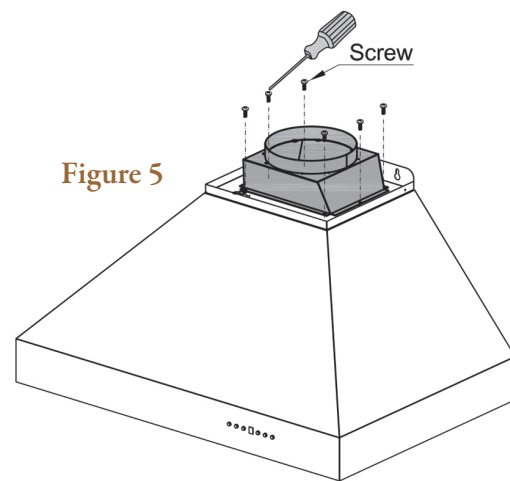

Figure 5
Install the transition piece securing it with screws provided. (Figure 5)
- 6 Make your electrical and ducting connections. Try and minimize the use of elbows. More elbows and longer runs create higher static pressure. The hood comes with a grounded three prong plug that can either be direct wire or plugged into a 20amp. circuit. (Figure 5)